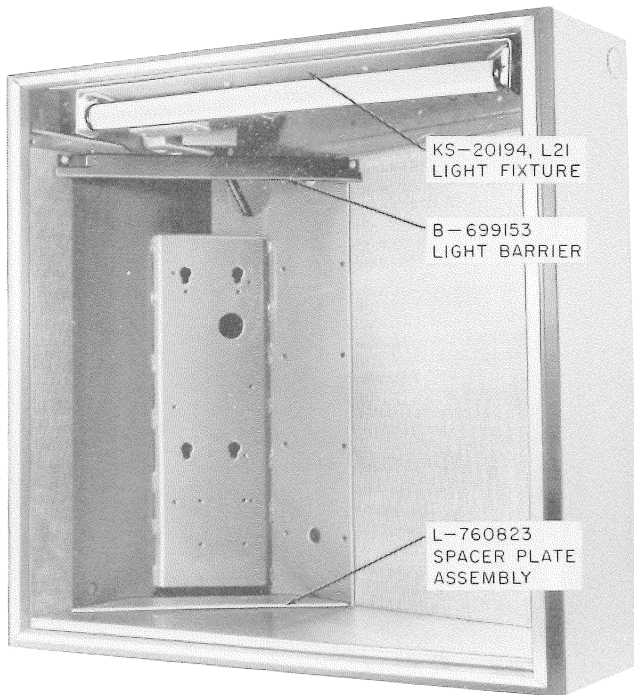

Fig. 5—Typical Housing For List 1, 2, 3, and 4 Shelf
- (i) Lists 1, 2, 3, and 4 shelves contain a light barrier and spacer plate (Fig. 5).
The shelf is packaged completely assembled [except the spacer plate assembly (Fig. 5) is packaged separately] and must be partially disassembled before it can be installed.